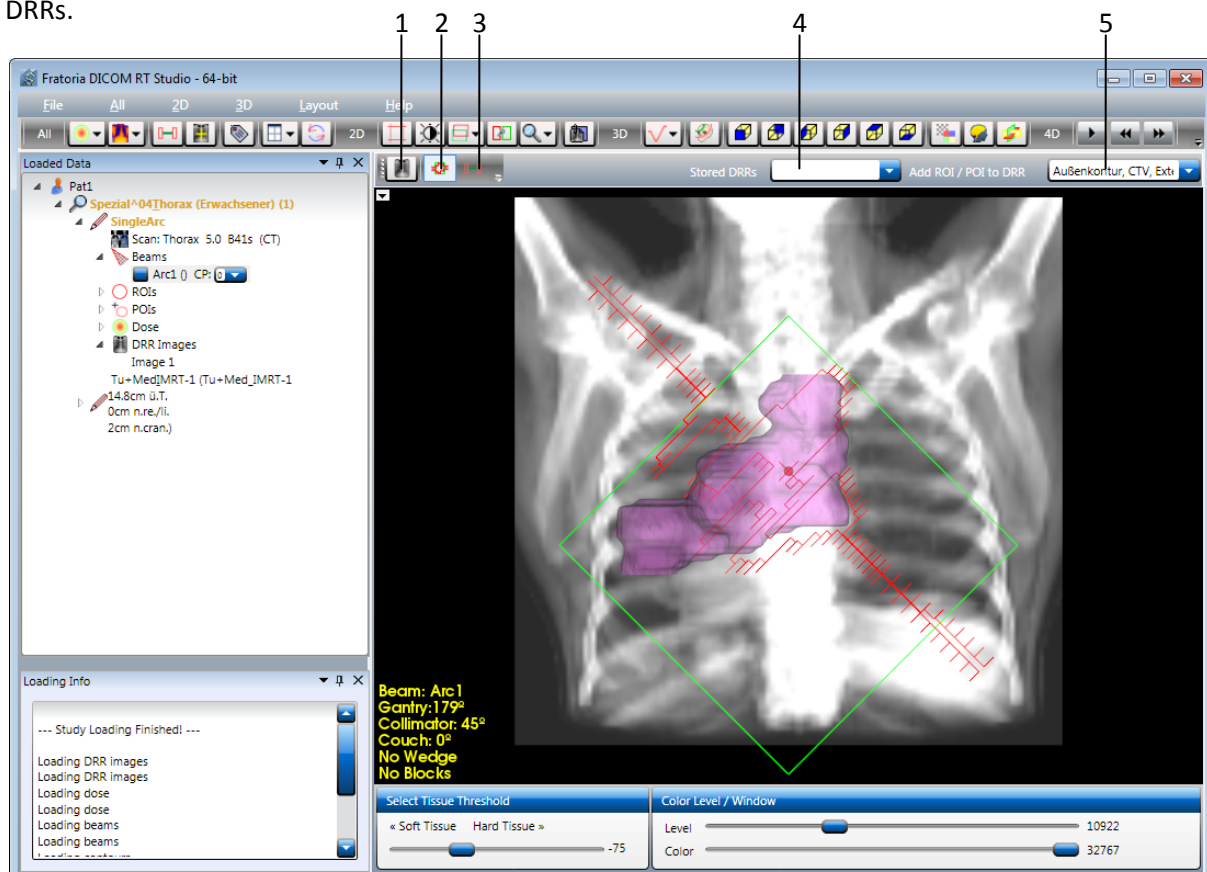

Figure 23 DRR beam selection
To display a stored DRR, you can expand the "DRR Images" node in the tree view and click on a DRR item. Alternatively, you can select a DRR from the "Stored DRRs" drop down list (item 4 on Figure 23).
To generate a DRR, expand the Beams node in the tree view and click on a beam, as shown on Figure 23. The collimator outlining will be automatically projected on top of the DRR. Using button 2 on Figure 23 you can turn collimator outlining on and off.
The DRRs are generated using ray cast method. For performance reasons, DRRs are produced at lower quality of 133 by 133 points with spacing of 4,5 by 4,5 mm. By pressing on the DRR button in the upper right corner of the DRR viewer (item 1 on Figure 23), you will obtain a higher resolution DRR of 300 by 300 points with spacing of 2,0 by 2,0 mm. The DRR will be added to the list of stored DRRs.
ROIs and POIs can be projected on the calculated DRR by selecting them from the "Add ROI/POI to DRR" drop-down list (item 5 on Figure 23). You can also display the name of a ROI shown on the DRR by hovering with the mouse above the POI.
Using the measure tool (item 3 on Figure 23), you can measure distance on the DRR the same way the distance is measured on an image in a 2D viewer, by dragging the mouse from one point to another while keeping the left mouse button pressed.